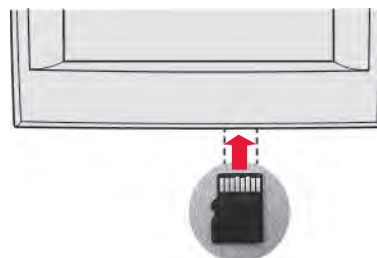

Fig. 269.
7. After the file is saved, remove the microSD card from the adapter and connect it to the thermostat. See Fig. 269. Then select the "Dealer Information" option on the thermostat.
1. Slide card into the bottom of thermostat. See Fig. 269.